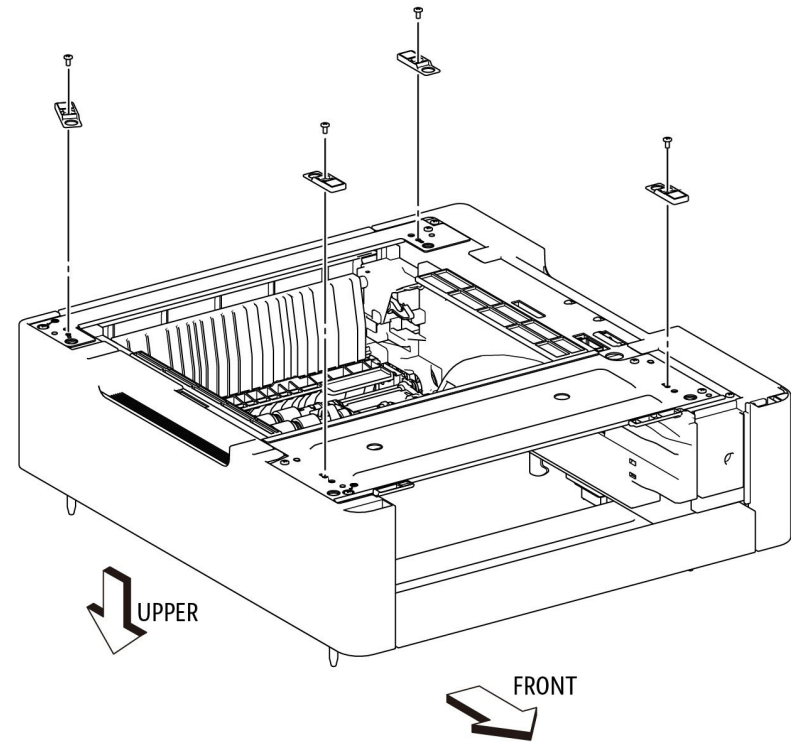

Figure 2 Remove the 550 Option Feeder Feet
4. Refer to **Figure 2** to remove the screw (silver, M3x6mm) attaching each foot to the 550 Option Feeder Assembly.